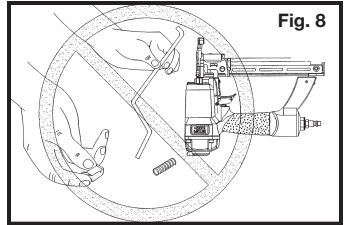

Fig. 8
13. Never use a tool that is leaking air, has missing or damaged parts, or requires repair. Make sure all screws and caps are securely tightened. Fig. 8.
14. Never use tool if safety, trigger or springs are inoperable, missing or damaged. Do not alter or remove safety, trigger, or springs. Make daily inspections for free movement of trigger and safety mechanism. Fig. 8.